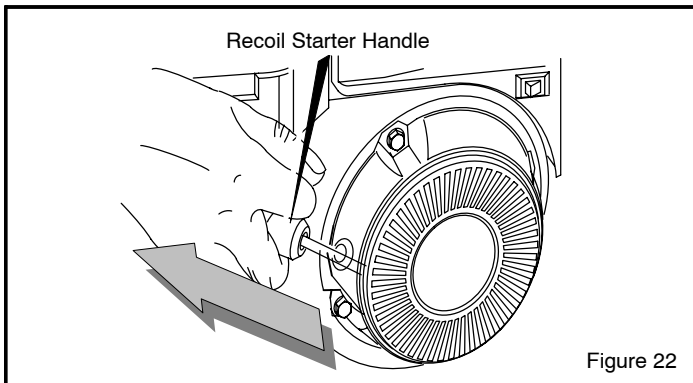

Figure 22
6. **(RECOIL START)** Slowly pull the **recoil starter handle** until resistance is felt and then pull rapidly to start the engine (Figure 22). Do not allow the **recoil starter handle** to snap back. Slowly return the **recoil starter handle**.